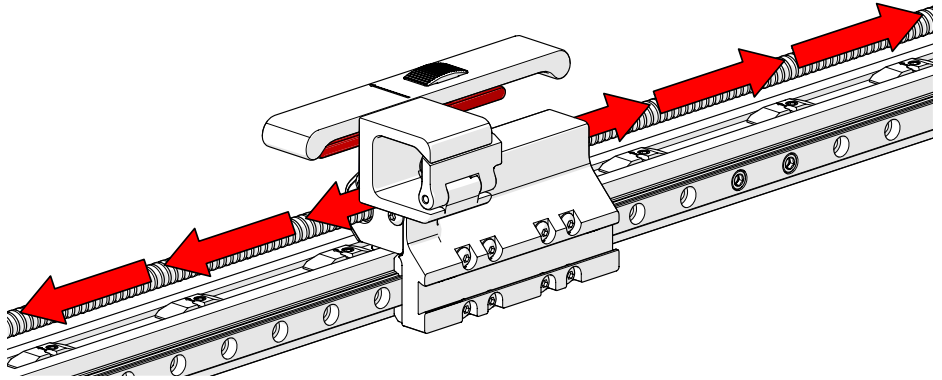

Fig. 36 - Indexing plunger
1. Lift the indexing plunger and move the carrier slightly to release the carrier from the locked position. Lower the indexing plunger and slide the carrier to the next index location where the carrier will lock in position (*Fig. 36*).